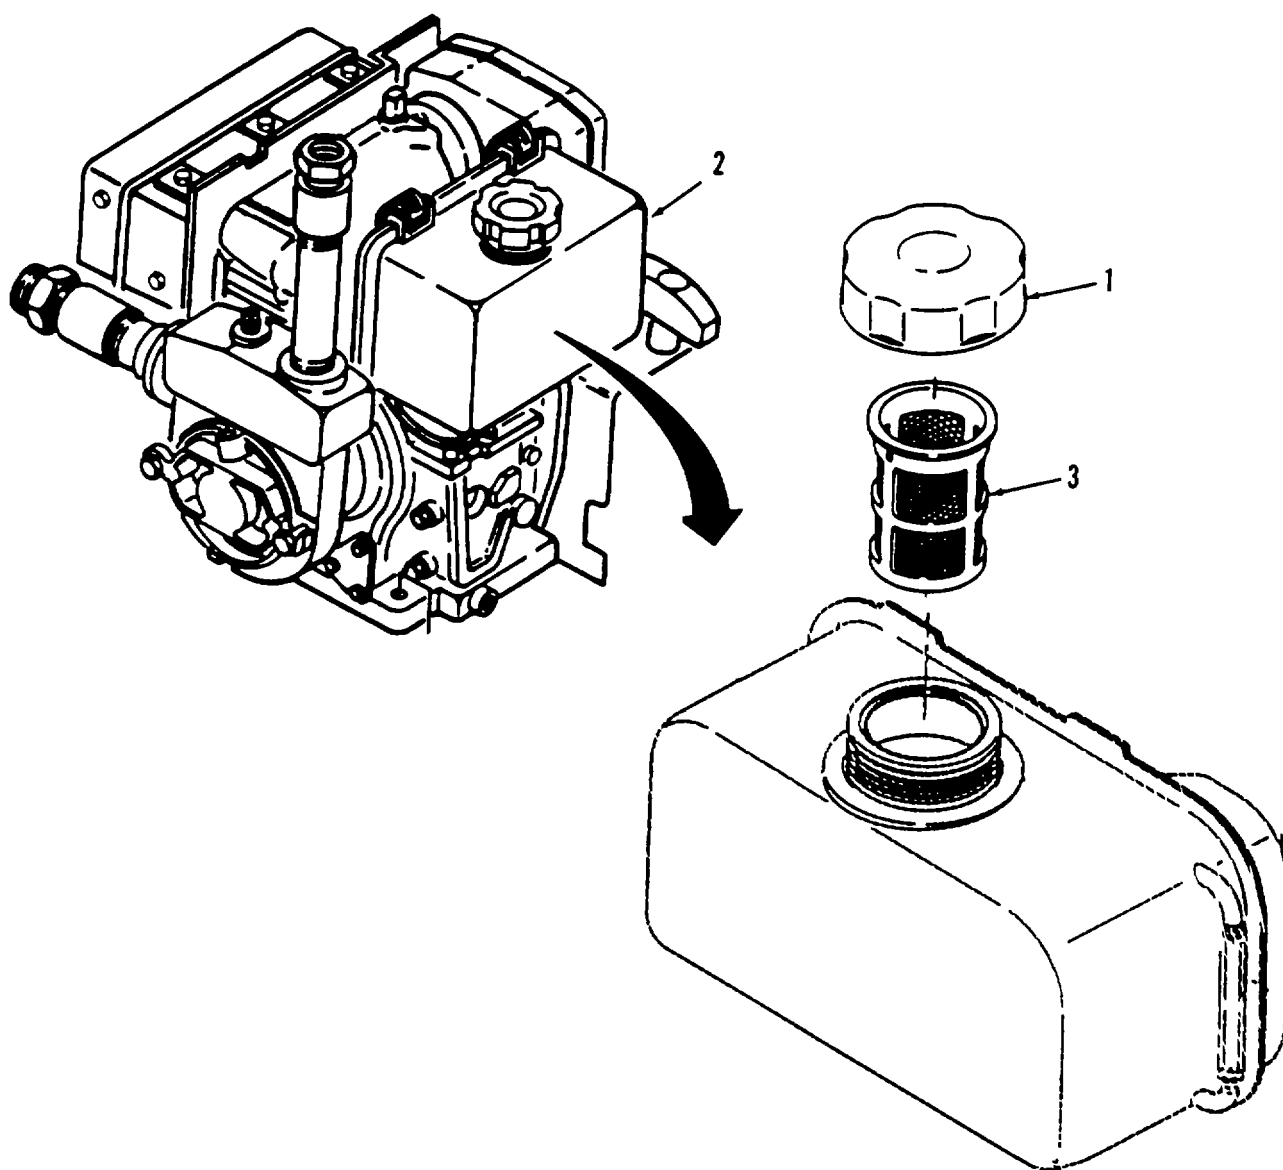

Figure 4-20. Fuel Filter, Inlet Replacement.
a. Removal (Refer to Figure 4-20).
- (1) Remove fuel tank cap (1) from fuel tank (2).
- (2) Remove inlet fuel filter (3).